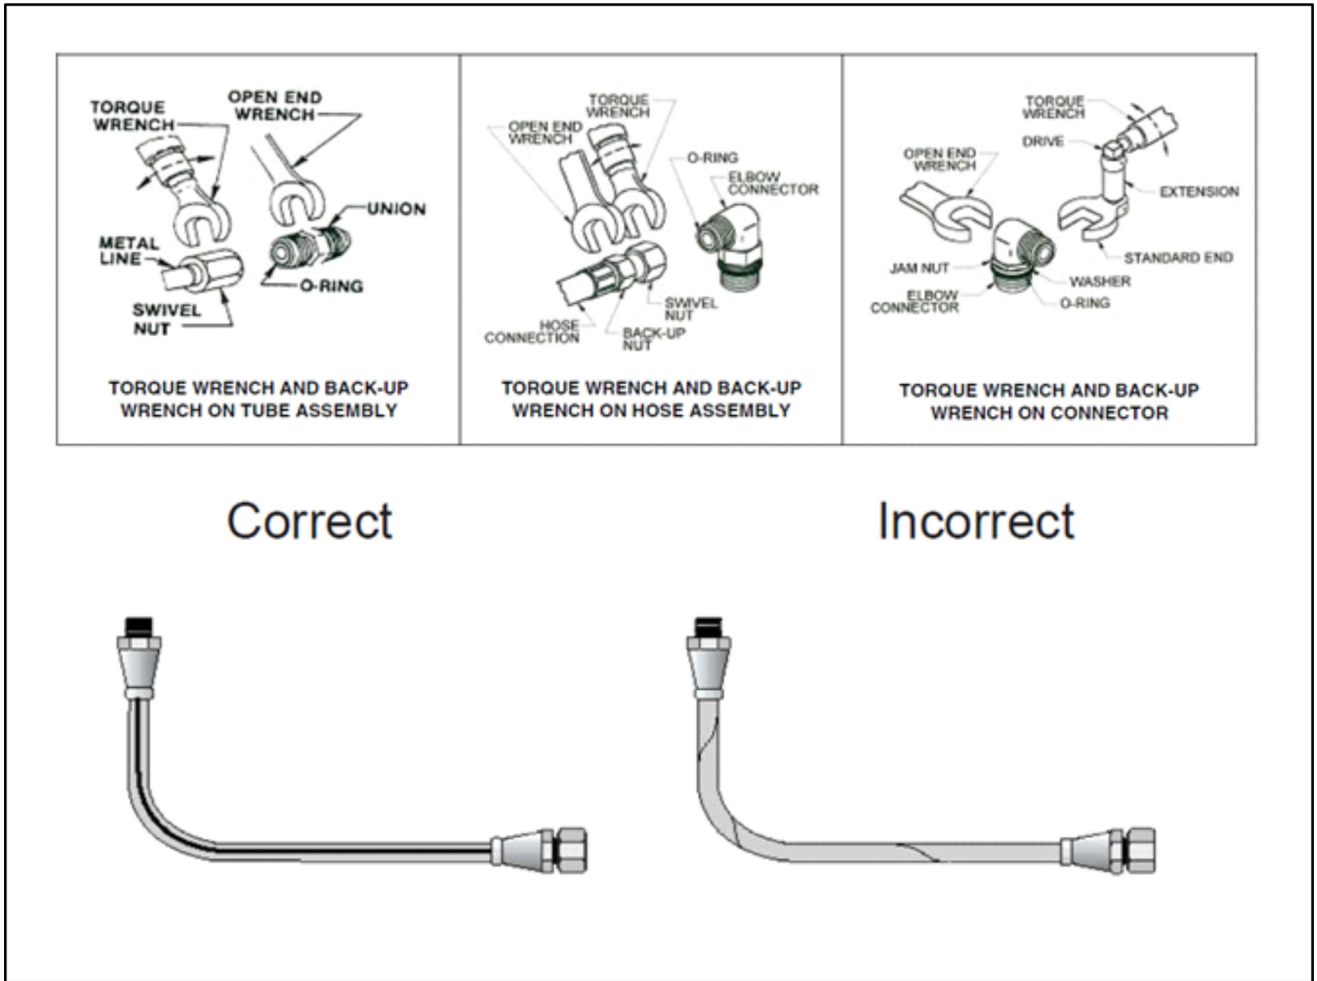

Figure 5-11. Double Wrench Method
the 'layline' printed on the hose is a good indicator of proper hose installation. A twisted lay-line usually indicates the hose is twisted. See Figure 5-11. for double wrench method requirements.
3. Use the double wrench method per Appendix A, turn the swivel nut to tighten as shown in Figure 5-11. The nut is to be rotated clockwise the number of hex flats as defined by the applicable Table in Section 5.0.